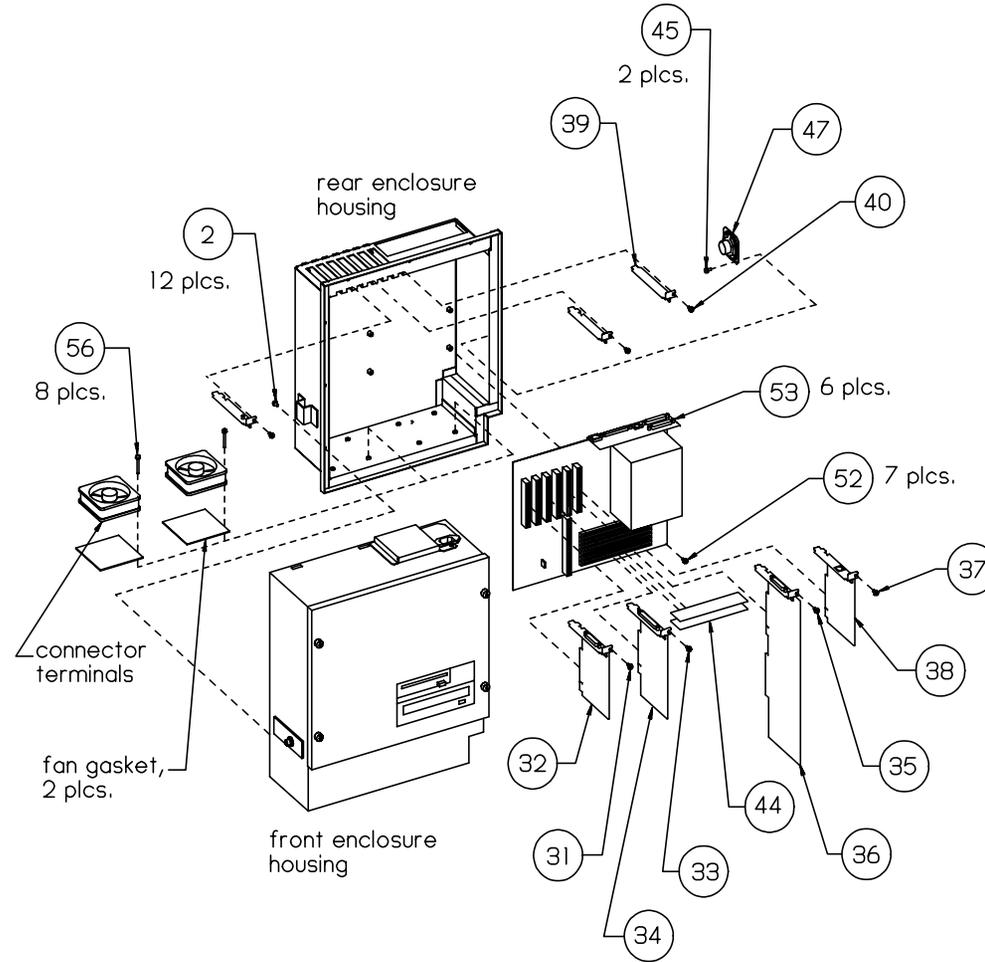

Figure 27A
Figures 27A and 27B show exploded views for clarity, which may not represent the actual position of the components during and after separation and removal. Also for clarity, these Figures usually do not show all the smaller pieces of hardware involved, such as screws. As in previous Figures, the call-out numbers correspond to the same-numbered steps in these procedures.
Figures 27A and 27B are at the end of this “Removal” section.
2. Remove the 12 pan-head torx screws that connect the Front and Rear Enclosure Housing, then separate the two Enclosure Housings as far as the length of the cables (still connected at this point) will allow. See Figure 27A.
31. Remove the pan-head torx screw that attaches the Ancillary Pwr. PCB's top mtg. bracket to the Rear Enclosure Housing. See Figure 27A.
32. Unplug the Ancillary Pwr. PCB from the J2001 slot on the Motherboard and remove it from the Rear Enclosure Housing. See Figure 27A.
33. Remove the pan-head torx screw that attaches the Serial PCB's top mtg. bracket to the Rear Enclosure Housing. See Figure 27A.
34. Unplug the Serial PCB from the J2003 slot on the Motherboard and remove it from the Rear Enclosure Housing. See Figure 27A.
35. Remove the pan-head torx screw that attaches the Graphics PCB's top mtg. bracket to the Rear Enclosure Housing. See Figure 27A.
36. Unplug the Graphics PCB from the J0601 slot on the Motherboard and remove it from the Rear Enclosure Housing. See Figure 27A.
37. Remove the pan-head torx screw that attaches the Ethernet PCB's top mtg. bracket to the Rear Enclosure Housing. See Figure 27A.
38. Unplug the Ethernet PCB from the J2103 slot on the Motherboard and remove it from the Rear Enclosure Housing. See Figure 27A.
39. Locate the Mouse/Keyboard Connectors Plate's top mtg. bracket, immediately to the right of where the Ethernet PCB's mtg. bracket was removed. See Figure 27A.
40. Remove the pan-head torx screw that attaches the Plate's top mtg. bracket to the Rear Enclosure Housing. See Figure 27A.
44. Unplug the Memory Modules from horizontal slots J0403 and J0404 on the Motherboard and remove them from the Rear Enclosure Housing. See Figure 27A.
45. Remove the 2 pan-head torx screws that attach the Speaker to the right side of the Rear Enclosure Housing. See Figure 27A.
47. Remove any plastic tie-wraps from the Speaker's connector wire, then remove the Speaker from the Rear Enclosure Housing. See Figure 27A.
52. Remove the 7 pan-head torx screws that secure the Motherboard to the Rear Enclosure Housing. For re-installation, note the Motherboard's position in the Rear Enclosure Housing. See Figure 27A.
- 53. Remove the 6 standoffs that attach the Port Plate to the upper-right area of the Motherboard. See Figure 27A.
- 56. Remove the 8 pan-head torx screws that mount the Fans to the bottom of the Rear Enclosure Housing, then remove the Fans and their gaskets from the Rear Enclosure Housing. For re-installation: make sure the arrow stamped on the side of the Fans points **up** for proper air flow, and use Loctite 525 (p/n 88-299319-00) on the 8 torx screws and torque them to 5 in.-lbs. See Figure 27A.